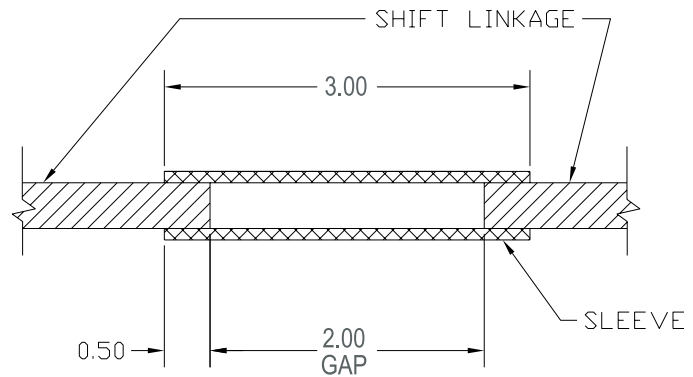

Figure 8
29. Install sleeve onto linkage aligning marks – Fig 8.